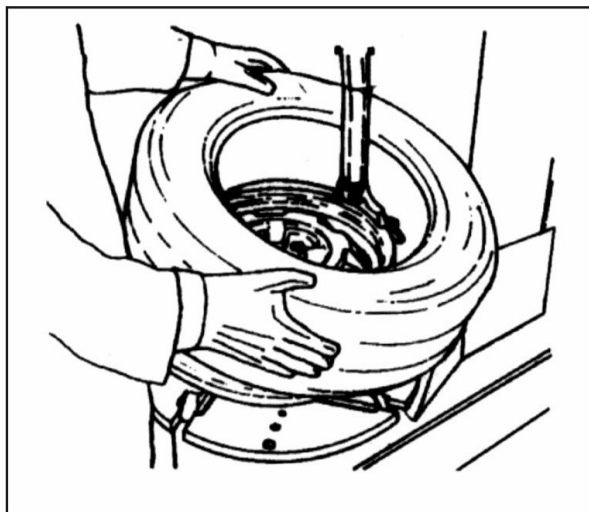

Fig 14
5. Take out the tube if there is. Turn over the wheel to let the other side toward the mount/demount head, and repeat the above steps to demount the other side of the bead. (Fig.14)